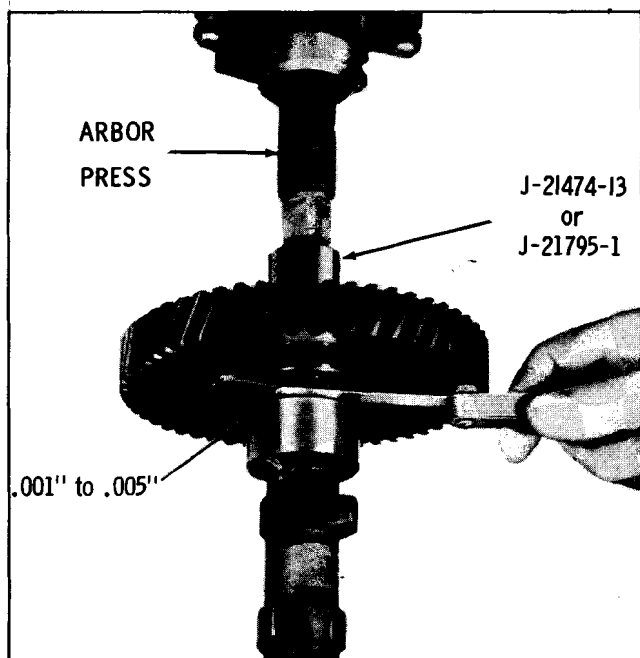

Fig. 6-48 Installing Camshaft Timing Gear and Checking Thrust Plate End Clearance
3. Install camshaft gear and press it onto the shaft using tool shown in Fig. 6-48 until it bottoms against the gear spacer ring. The end clearance of the thrust plate should be .001" to .005" (Fig. 6-48). If less than .001", the spacer ring should be replaced. If more than .005", the thrust plate should be replaced.